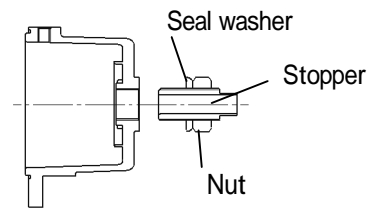

Fig.23
(5) Remove a stopper, a nut and a seal washer from the cover of the unit (Fig.23).